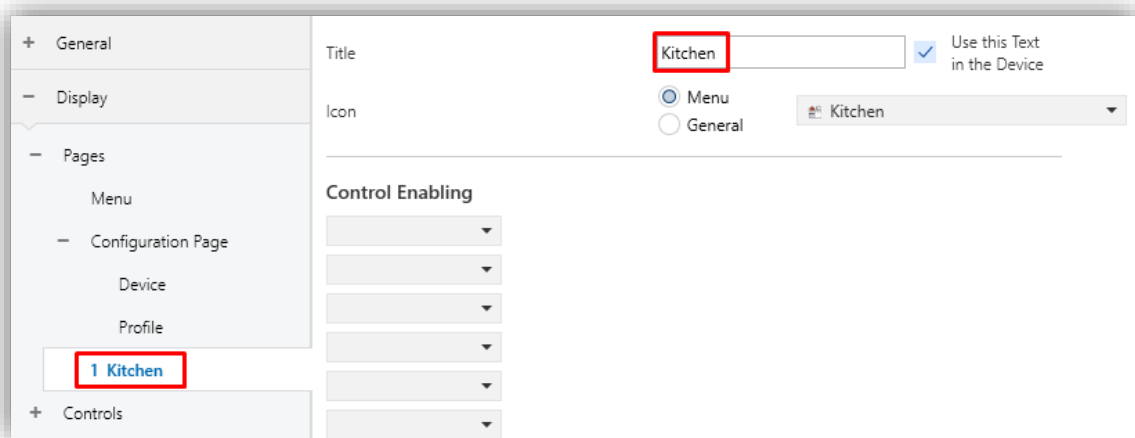

Figure 37. Configuration Page n
- **Title:** text field that identifies each of the enabled pages. In addition, this field allows changing the name of the tab in ETS left menu, as shown in the Figure 37.